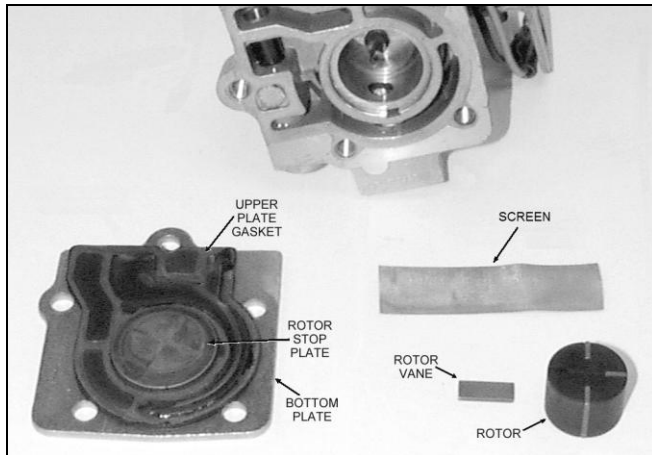

Figure 7
4. Remove the screen (note the position of the screen). Remove the rotor vanes and rotor by inverting the pump. Lay all pieces on a flat clean surface. See Figure 7.